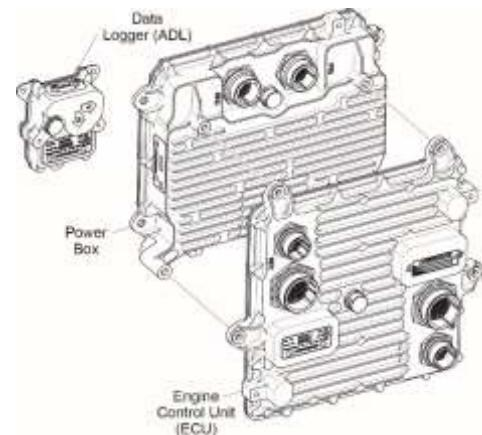

Figure 3
- Primary components (Figure 3):